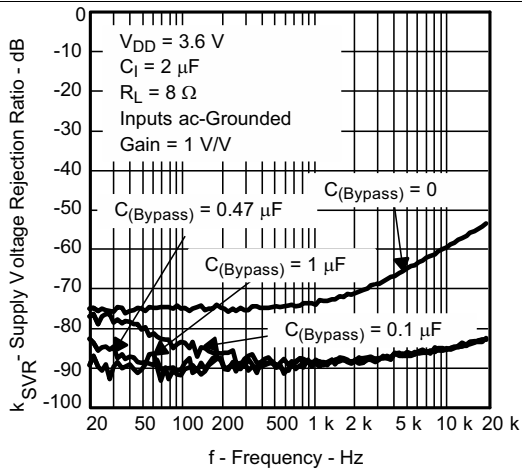

Figure 17. Supply Voltage Rejection Ratio vs Frequency
- **Mid-supply bypass capacitor, $C_{(BYPASS)}$, not required:** The fully differential amplifier does not require a bypass capacitor. This is because any shift in the mid-supply affects both positive and negative channels equally and cancels at the differential output. However, removing the bypass capacitor slightly worsens power supply rejection ratio (k_{SVR}), but a slight decrease of k_{SVR} may be acceptable when an additional component can be eliminated (see Figure 17).